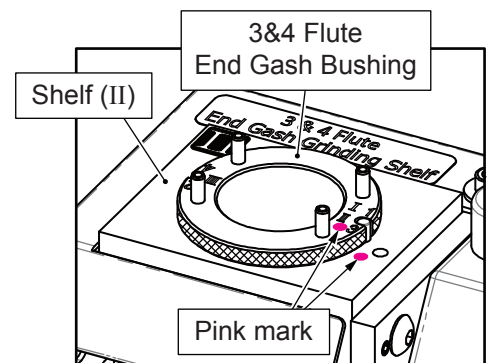

Fig. 11-2
2. End Gash Grinding Shelf (II) (Fig. 11-2)